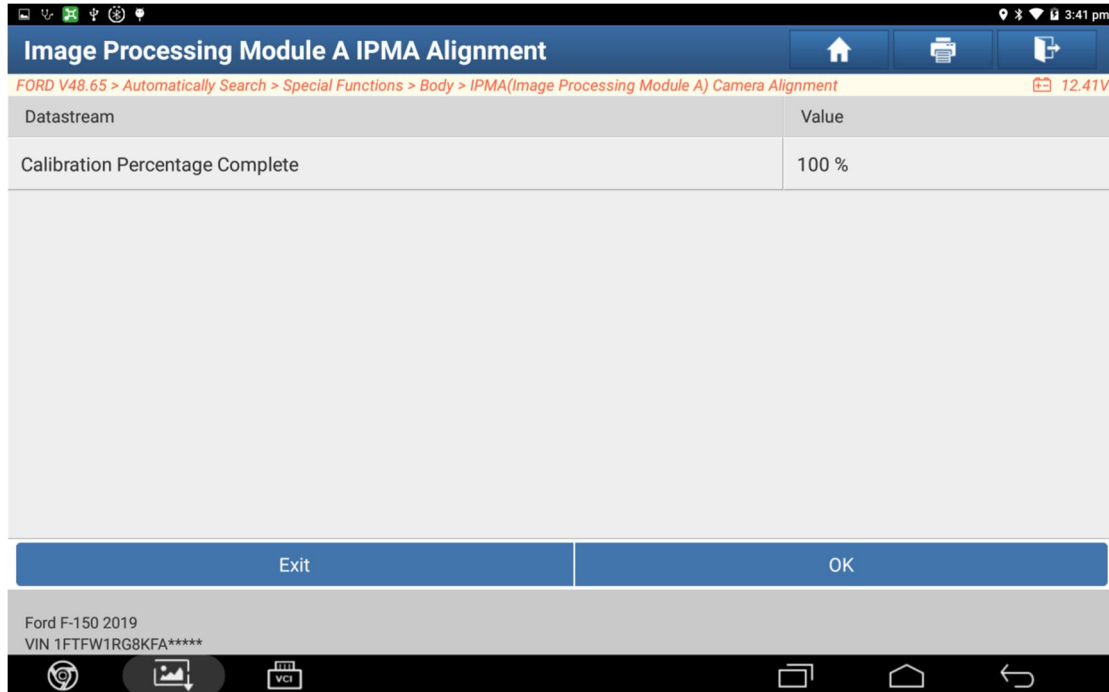

Figure 18
16. Display the progress of calibration completion. At this time, please drive the vehicle on a clearly marked lane. Turn on the Lane Keeping System, vehicle speed exceeds 60 KPH, and the calibration completion percentage is 100% (Figure 18), then the alignment is successfully completed. A fault code will be generated if the ignition is switched OFF when calibration is not completed.